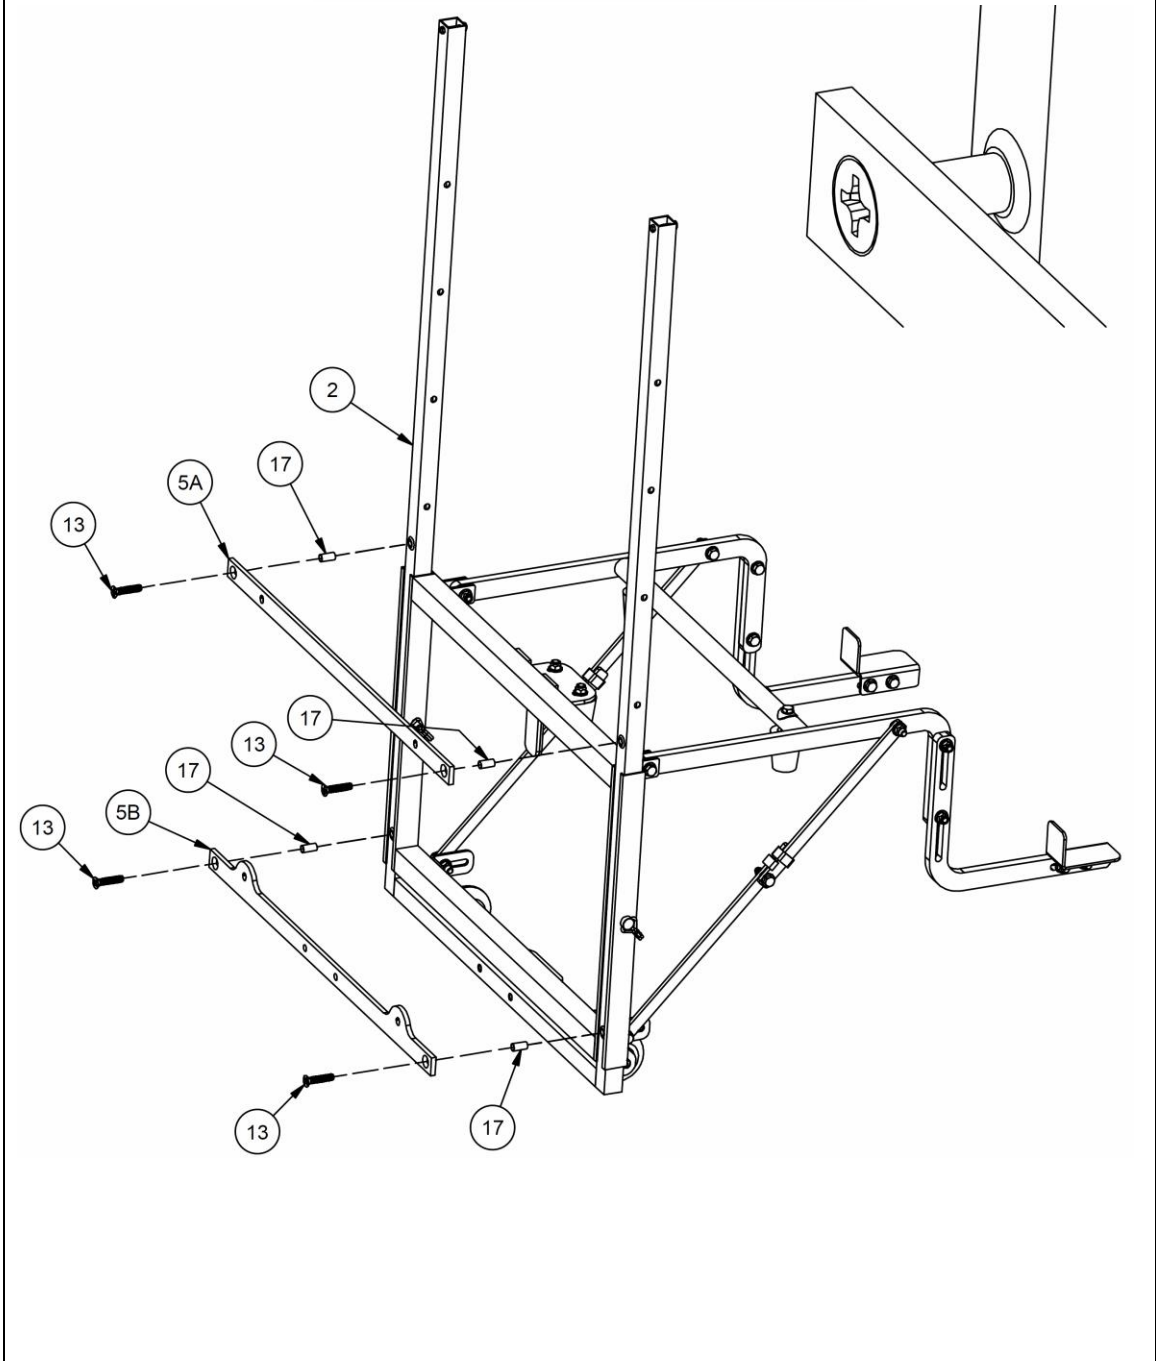

Figure 5 (Attach frame boardmounts)
- 7) Install the backboard mounting brackets onto the front frame (see Figure 5).